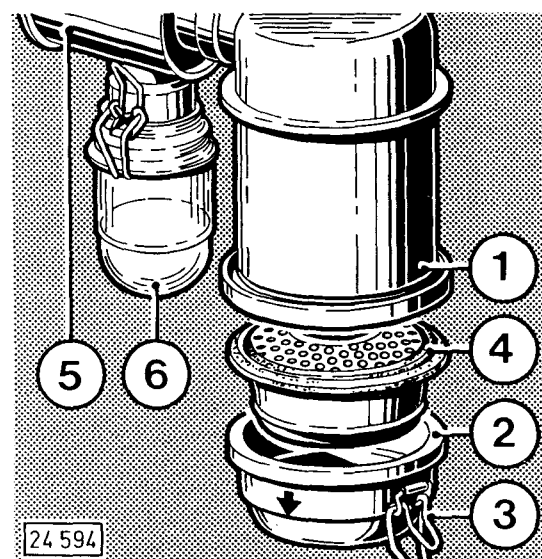

Fig. 34
- Release the snap clips 3 (Fig. 34) and remove oil bowl 2.
1.1 Cyclone-type Pre-cleaner 5 (Fig. 34) (if mounted)